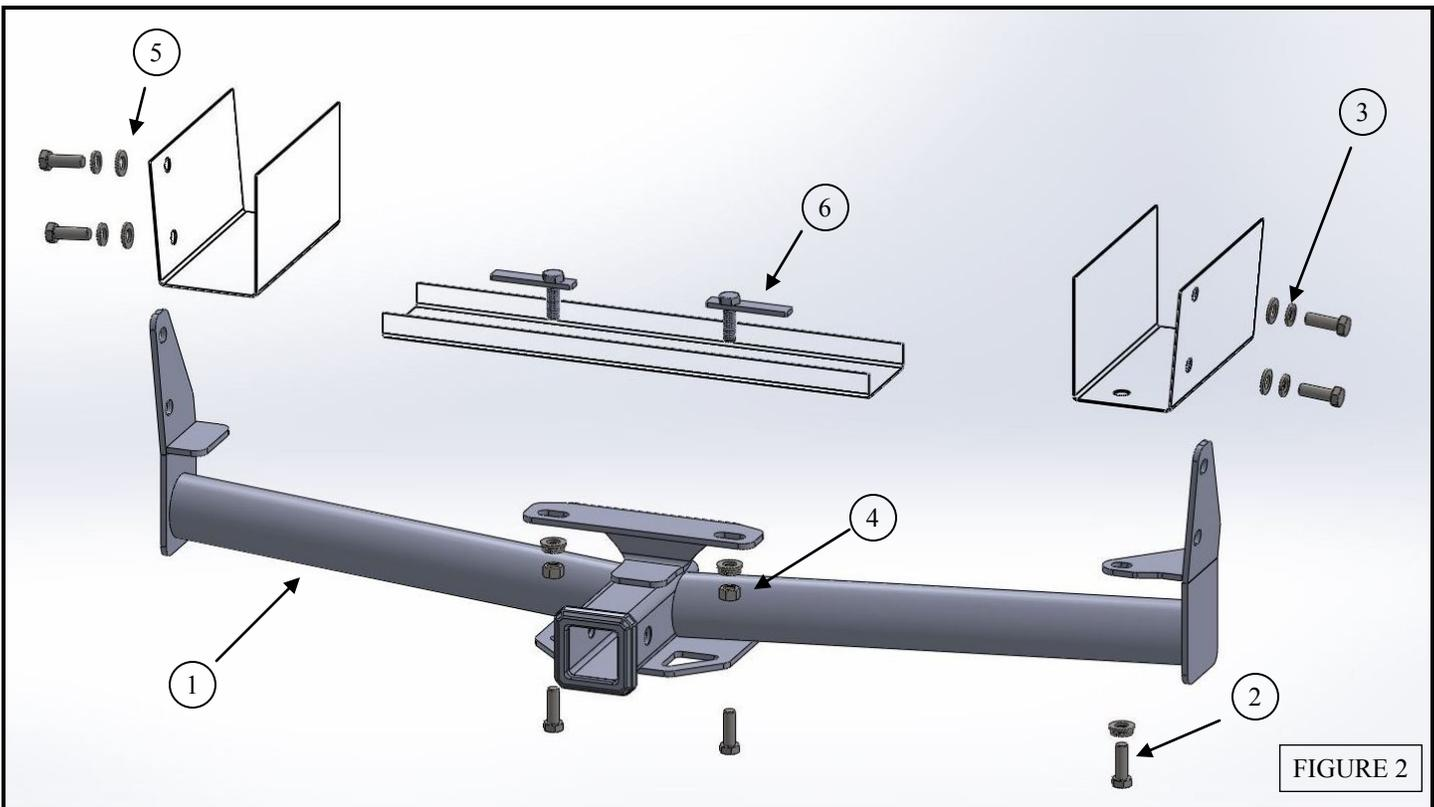

FIGURE 2
4. With assistance, raise the hitch assembly to the factory mounting holes on the vehicle. If the vehicle has threaded holes in the center mount channel, Use two M12 flat washers, spring lock washers, and cap screws at that location. If stud plates were placed in the channel, use the supplied M12 flat washers, spring lock washer, and M12 hex nuts to fasten. Leave the fasteners loose to ease the installation of the other fasteners. FIGURE 2
5. The side channels will have M12 threaded holes on all vehicles. Use the supplied M12 flat washers, split lock washers, and cap screws to fasten. Do not fully tighten at this time. FIGURE 2